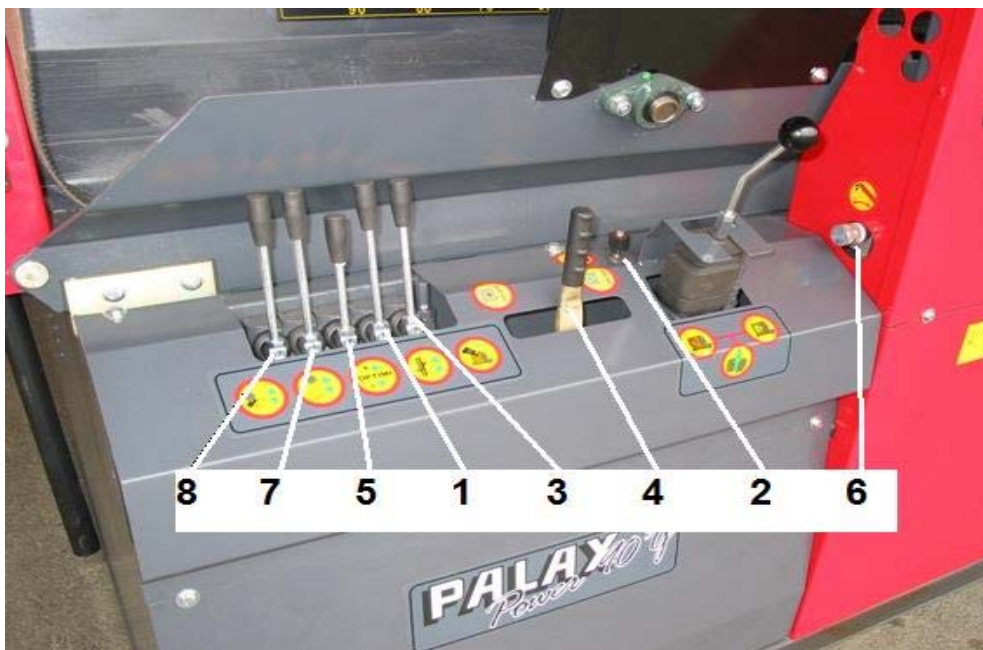

Fig. 11
4.3 Other hydraulic operating controls, Fig. 11
- After the cutting operation, if the log for some reason falls into an upright position, then the splitting motion may be prevented by pushing to the left the control lever for forced splitting (Fig. 11, lever 4), and simultaneously lifting up the cutting blade. This ensures the crosscut blade will come up in a normal way, but the splitting motion will not start.